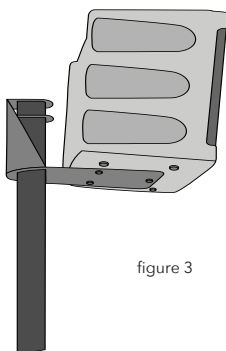

figure 3
9. Place the assembled DPA with bracket onto the speaker stand as shown in figure 3.